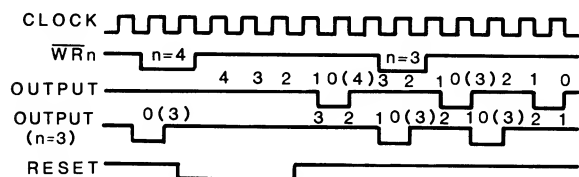

Figure 14-11. Timing Mode 2
**Mode 2** — In this mode, the counter will produce a low for one clock cycle on its output pin every  $n$  clock cycles. As long as the gate remains high, the counter will repeatedly decrement the count to zero and start over. If the counter's value is changed, the new value will take effect the next counting cycle and not affect the current cycle. This action is illustrated in the upper set of lines. Refer to Figure 14-11.